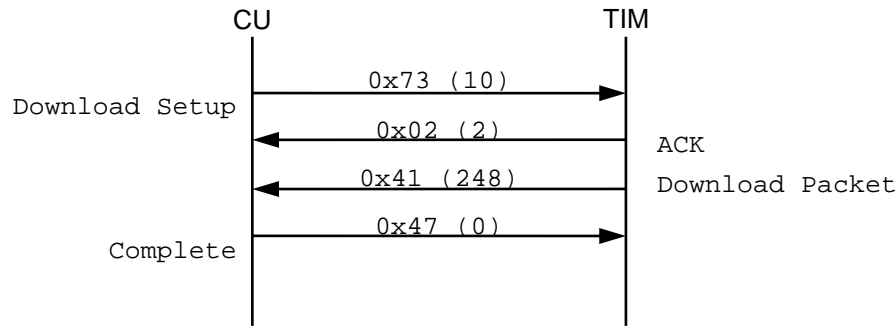

Figure 1 - Download command sequence
shows the data available in non-volatile storage. A sequence of commands is required to download this information, and the information will need to be parsed according to the table. Figure 1 shows the command sequence between the connected unit (CU) and the thermal imaging module (TIM).
A download from the TIM is initiated by the CU with the “Data Transfer Download Setup” message (0x73). This message has five, 16-bit parameters (10 bytes total). The parameters identify the device; region, range, and size of the download (see Figure 1)